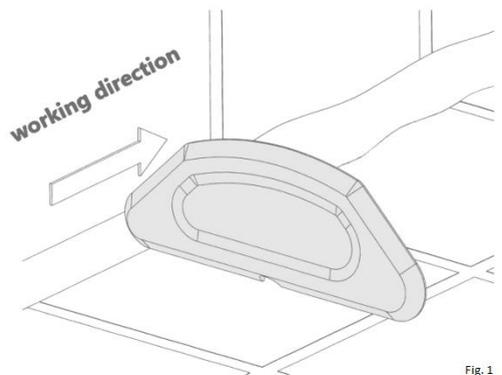

Fig. 1
7. Select the smoothing tool with the desired geometry, apply cleanly and remove quickly. Make sure that the stencil remains in the same position. The flat side of the stencil always points in the working direction. For clarification, see figure 1.